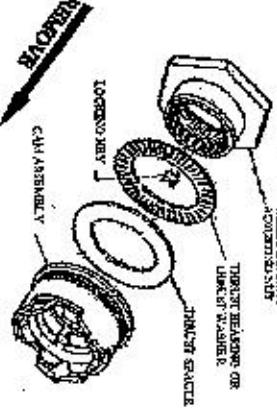

Figure 2
- b) Remove the Cam assembly, Thrust Spacer and Thrust Bearing or Thrust Washers from the Wheel Bearing Adjusting Nut (Figure 2).
- c) Remove the Locking Key (single or double bump) from the Wheel Bearing Adjusting Nut. Make sure the Adjusting Nut is not binding against the Locking Key or removal of the Locking Key will be most difficult. A thin sharp tool will help remove the Locking Key. After the Locking Key has been removed, remove Adjusting Nut from the Wheel Spindle (Figure 2). On some early vehicles the Locking Key is part of the Camming assembly. On these vehicles the Adjusting Nut must be removed after the Camming assembly has been removed.